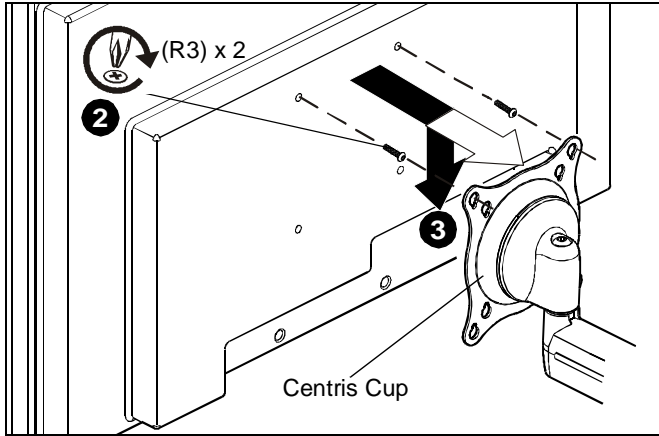

Figure 5
2. Using Phillips screwdriver, carefully install two screws (R3) into the *upper* mounting holes on the display. Thread screws completely into display, then back out 3 complete turns. (See Figure 5)
3. Align two screws (R3) (installed on the back of the display in the previous step) with the two top teardrop mounting holes on the Centris cup. (See Figure 5)